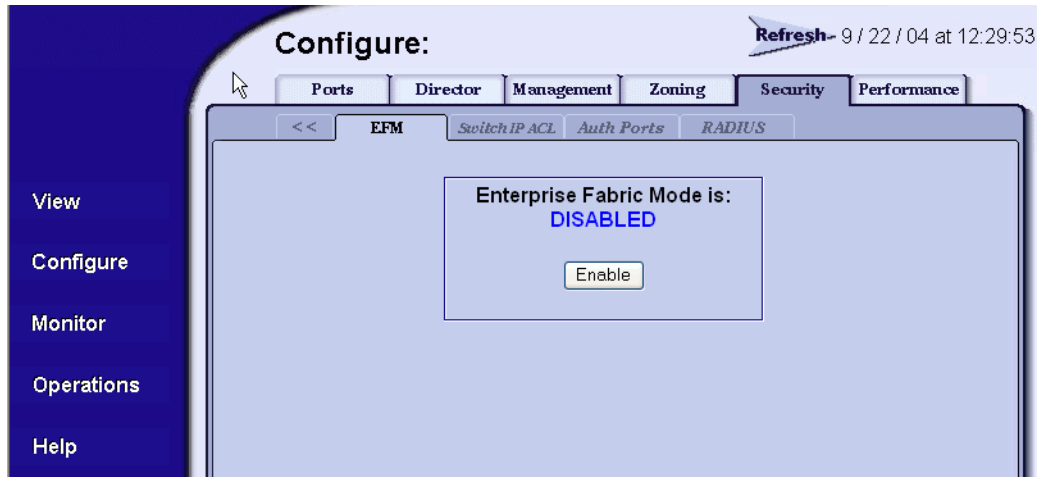

Figure 2-19 Configure Panel (Security Page with EFM Tab)
1. At the *Configure* panel, click the *EFM* tab. The *Security* page displays with the *EFM* tab selected (Figure 2-19).